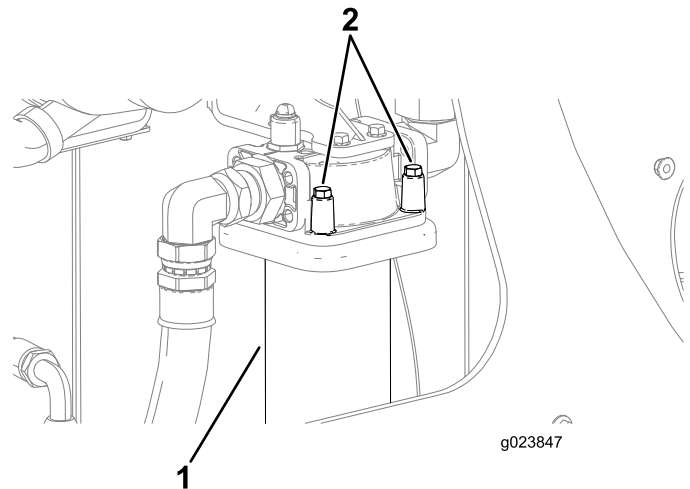

Figure 153
3. Align a drain pan or several rags under the charge filter (Figure 153).
4. With one hand under the hydraulic-return filter, remove the 4 bolts as shown in Figure 153.
7. Align the new hydraulic return filter to where it seats, and tighten the 4 bolts (Figure 153).